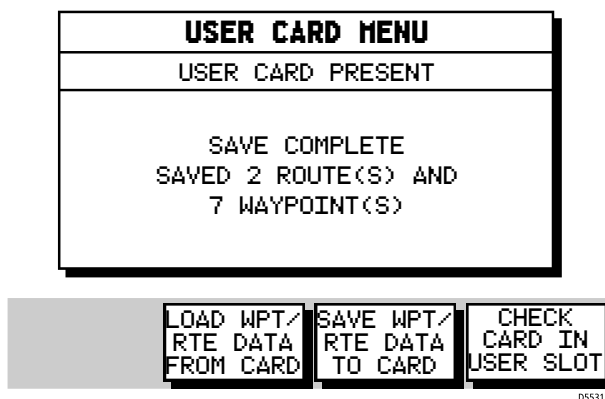

Figure 3-47: Successful Save Completion
- If the operation is successful, confirmation of the number of Routes and Waypoints saved is displayed, see *Figure 3-47*.